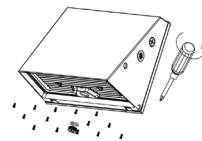

Fig. 3.1
1. Remove screws securing the optics. Remove the ½" plug of the motion sensor receptacle (Fig. 3.1). Set them aside for reassembly.